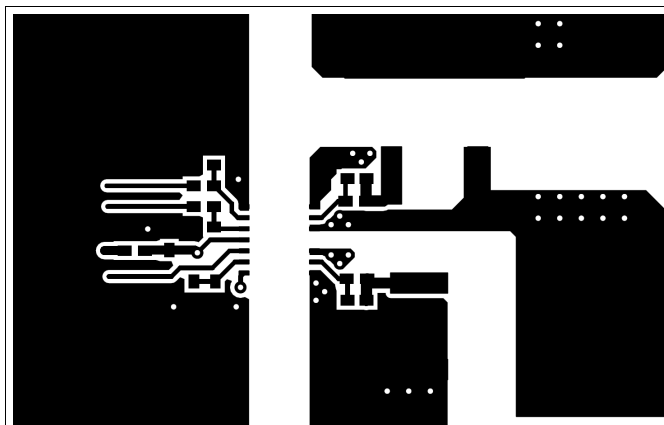
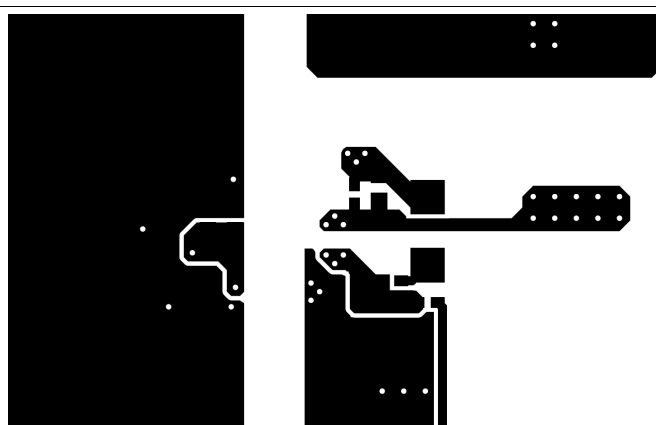

Figure 42. Top Layer Traces and Copper
Figure 43. Bottom Layer Traces and Copper
- Increasing the PCB copper connecting to VDDA, VDDB, VSSA and VSSB pins is recommended, with priority on maximizing the connection to VSSA and VSSB (see Figure 42 and Figure 43). However, high voltage PCB considerations mentioned above must be maintained.
Figure 42 and Figure 43 shows top and bottom layer traces and copper.